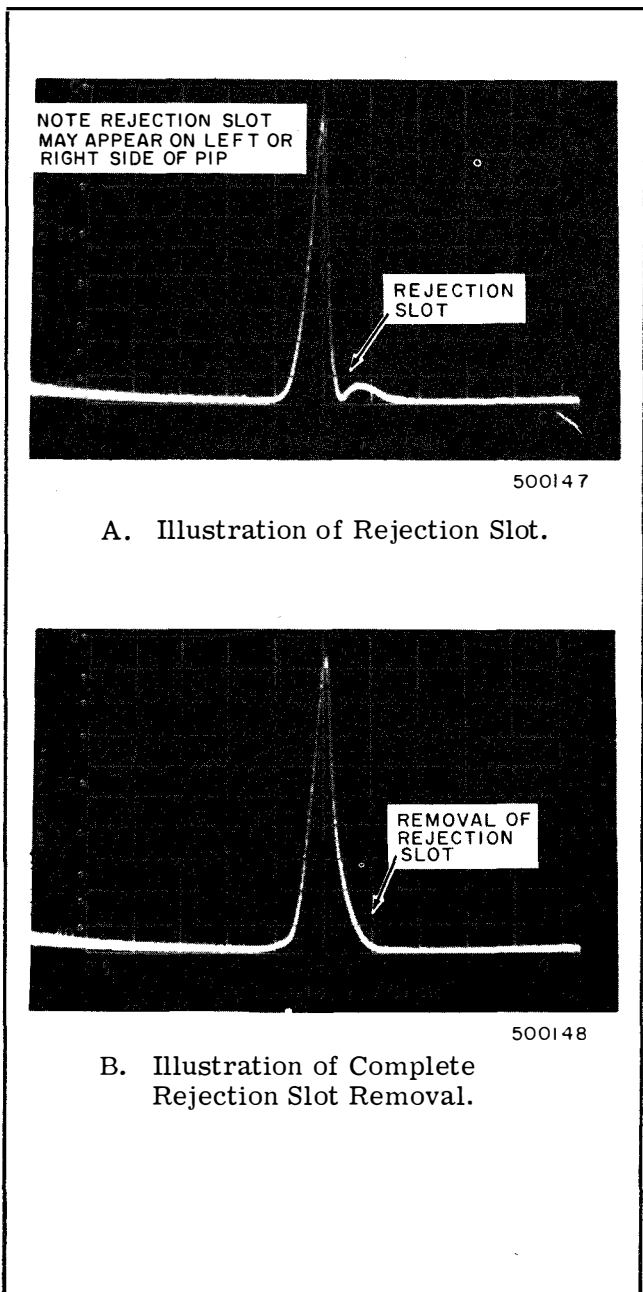

Figure 5-3. Crystal Rejection Slot Removal
g. Set the signal generator output level for a full-scale pip. Rotate C185 through 360 degrees, noting the change in pip shape. At some point of rotation, the pip should approximate the shape shown in a of figure 5-3 or its mirror image.
As rotation is continued, the rejection slot should sharpen and disappear into the side of the pip. Continued rotation should cause the rejection slot to appear on the other side of the pip. Reverse the rotation and choose a point at which pip symmetry is best and no rejection slot is present. This is illustrated in b of figure 5-3. This point should be approximately halfway between the two positions at which the rejection enters the pip from the sides.